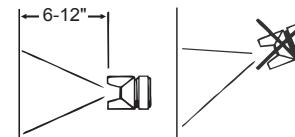

Figure 8
- Keep the spray gun at the right angle of 90 degree to the surface being covered and maintain an even, steady distance and speed. (See Figure 8)